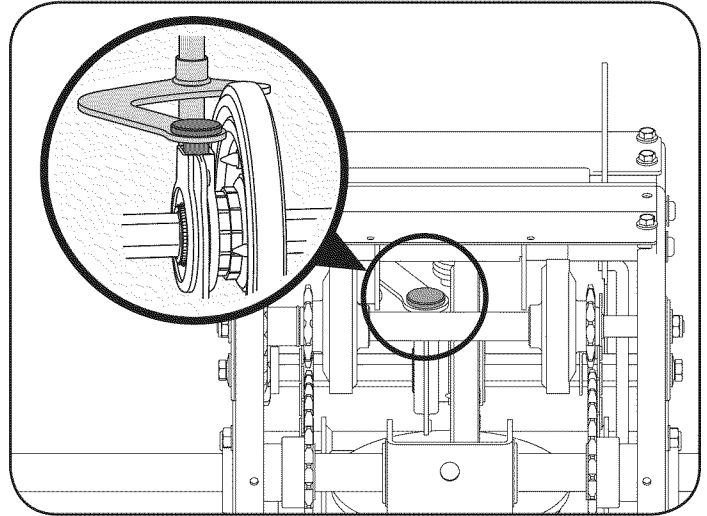

Figure 34
- Reposition the friction wheel assembly in the snow thrower frame. Insert the pin from the shift arm assembly into the friction wheel assembly and hold assembly in position. Refer to Figure 34.